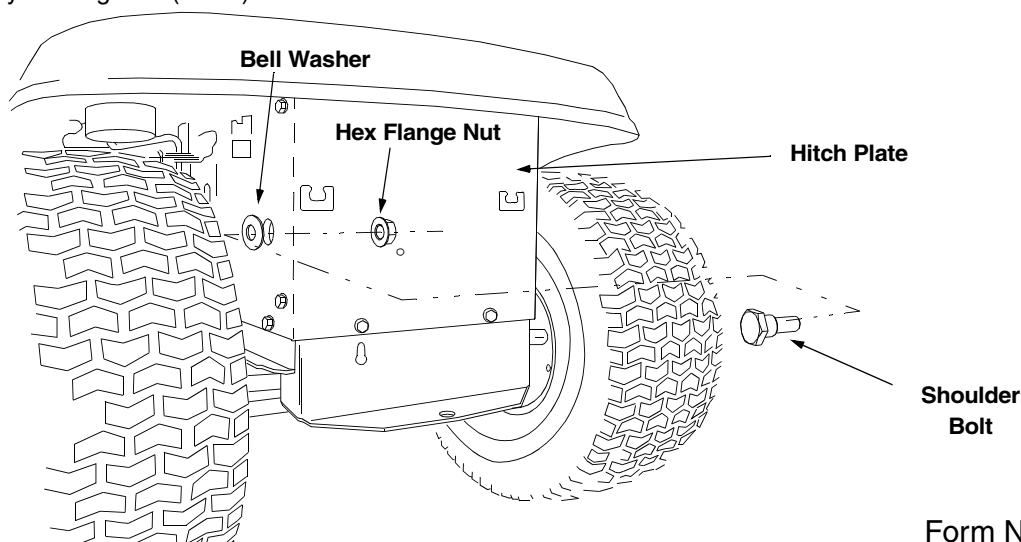

Figure 2
7. Attach the shoulder bolt and bell washer to the left side of hitch plate as shown in Figure 2 by positioning a wrench over the hex flange nut on the inside of the hitch plate (accessed through the battery tray opening) while tightening the shoulder bolt with a second wrench. Fasten securely. Repeat this on the right side of the hitch plate.